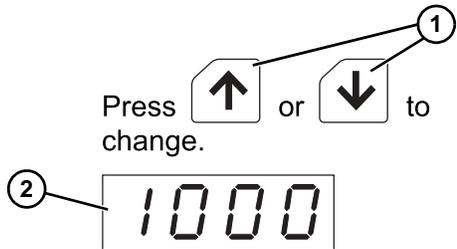

Figure 27
- Press up or down (Figure 27, item 1) to change the speed (e.g., 1000 r/min) (Figure 27, item 2). Pressing and holding the key for 3 seconds or more will increase or decrease the value successively.